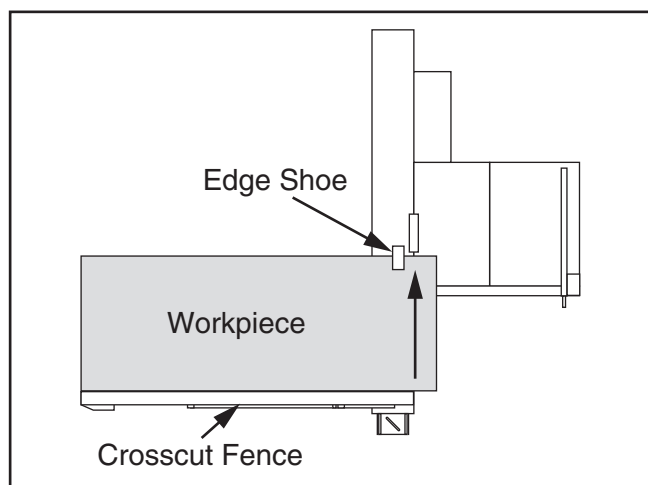

Figure 110. Crosscut with fence mounted in rear position.
Mounting the crosscut fence in the rear position (see **Figure 110**) gives greater stability for crosscutting smaller panels.
1. Install crosscut fence in rear mounting location shown in **Figure 110** and lock it in place.
4. Load workpiece onto table saw in rear mounting location, shown in **Figure 110**. If necessary, use edge shoe to secure workpiece to sliding table.